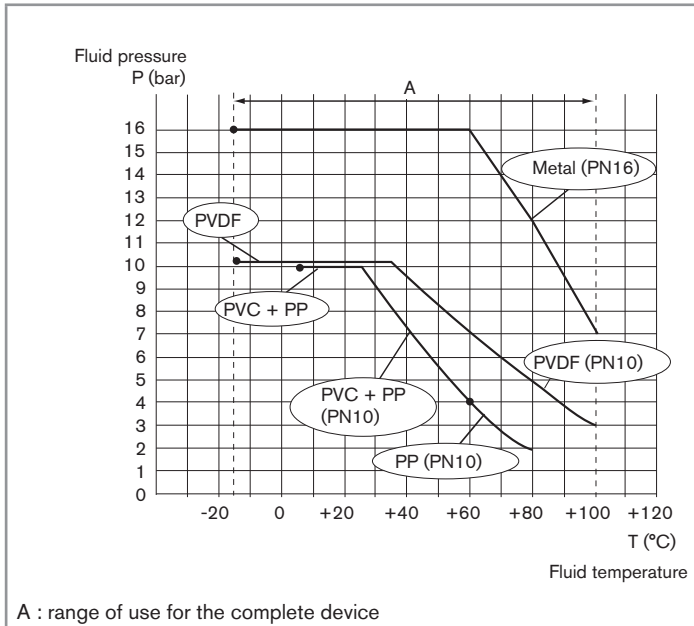

Fig. 1: Fluid pressure / temperature dependency curves
Fluid pressure	depends on the fitting material (see <a href="#">Fig. 1</a> in <a href="#">chap. 7.1</a> )
- ▶ Take the fluid pressure / temperature dependency into account according to the nature of the material of the fitting used (see Fig. 1).